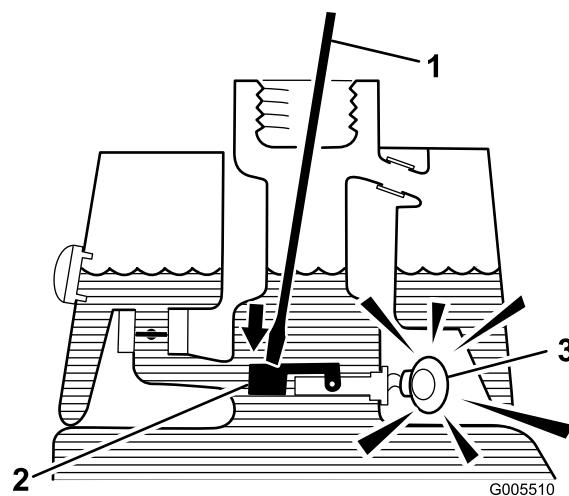

Figure 31
- 3. Insert a clean rod or screwdriver into the tank neck and gently push down on the switch float (Figure 31). The alarm should sound after the one-second delay.